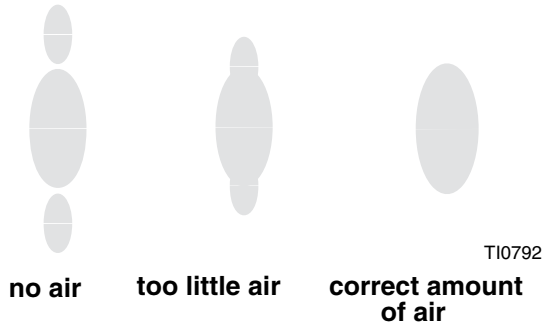

FIG. 11: Correct Spray Pattern
4. Turn on the atomizing air and set the air pressure at about 10 psi (70 kPa, 0.7 bar). Check the spray pattern, and then adjust the air pressure until the tails are completely atomized and pulled into the spray pattern. See FIG. 11. Do not exceed 100 psi (0.7 MPa, 7 bar) air pressure to the gun.